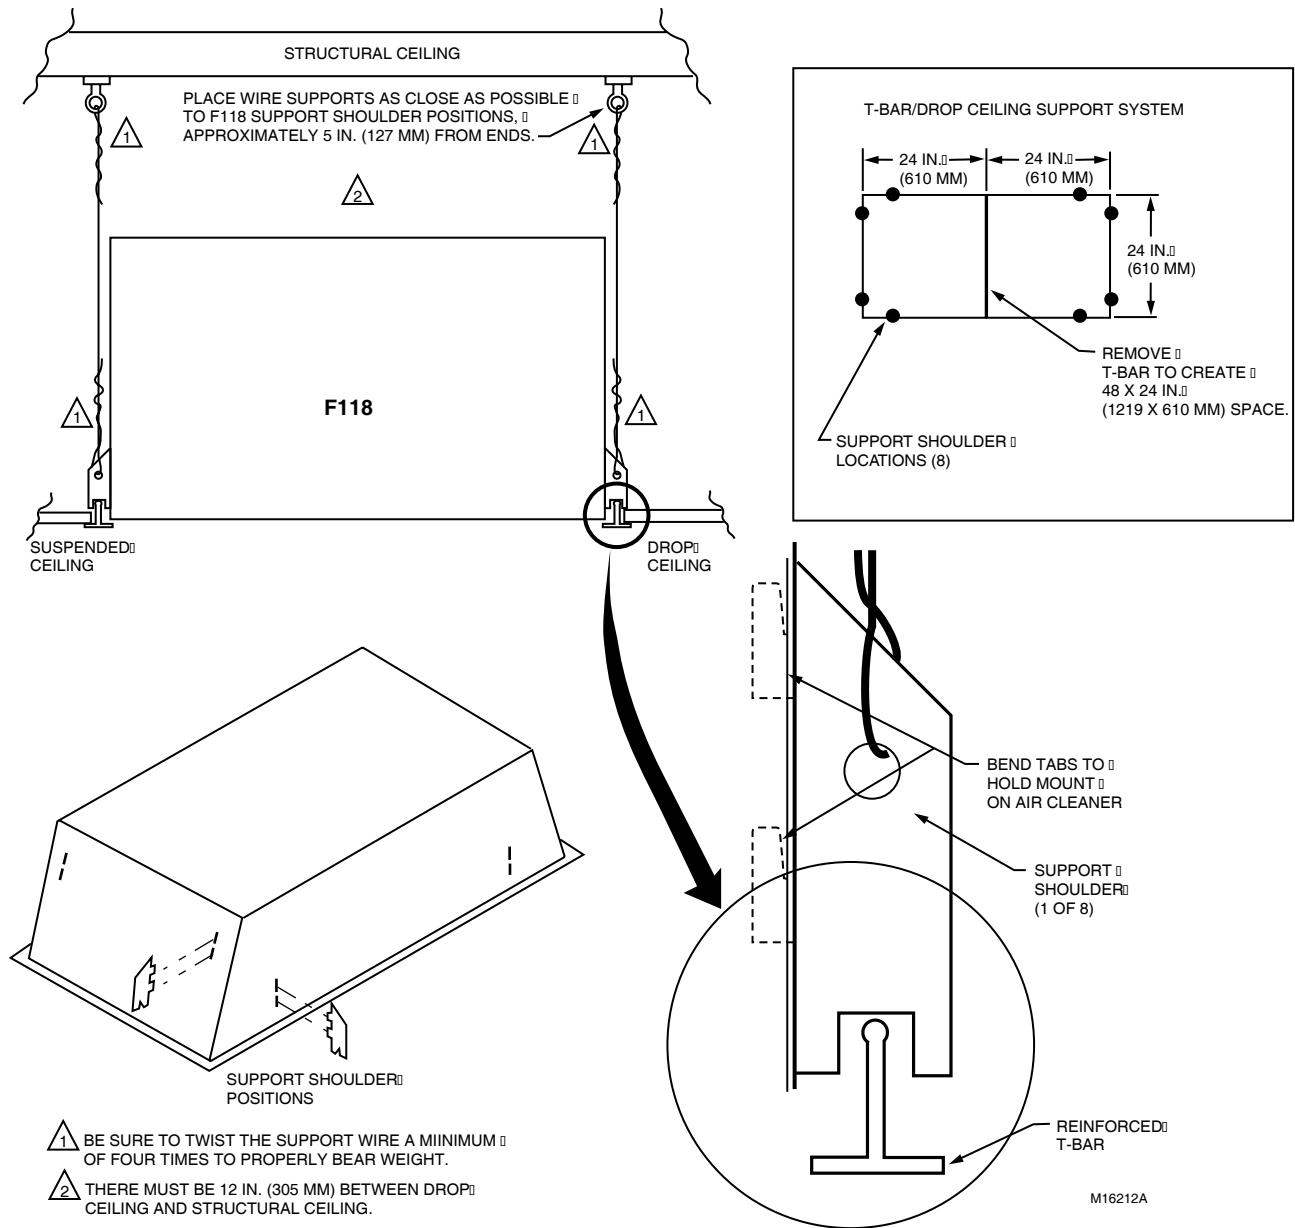

Fig. 4. Mounting procedure.
See Fig. 4 and use these instructions to mount the F118 as part of a drop ceiling:
1. The cabinet has multiple slots. See Fig. 4. Insert the support shoulders into the selected slots.